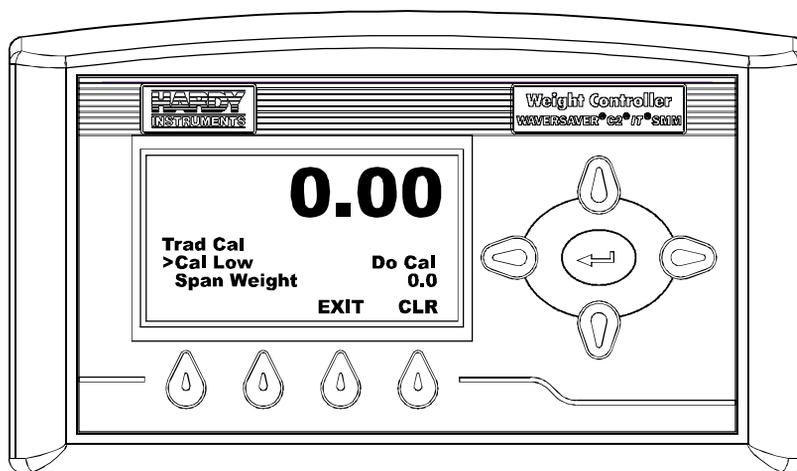

FIG. 313 TRAD CAL MENU/DO CAL LOW
Step 10. Press the Down Arrow button until the cursor is in front of “Cal Low Do Cal”. (See Fig. 313)